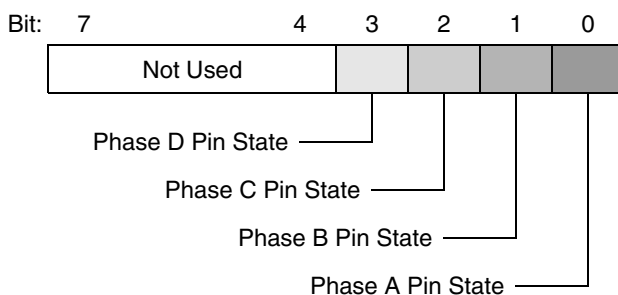

Figure 2. Encoding Sector Parameter
- **Sector** - This parameter determines the position of the motion system in one of the sectors. Sector parameter value is encoded based on the input signal states; see Figure 2.